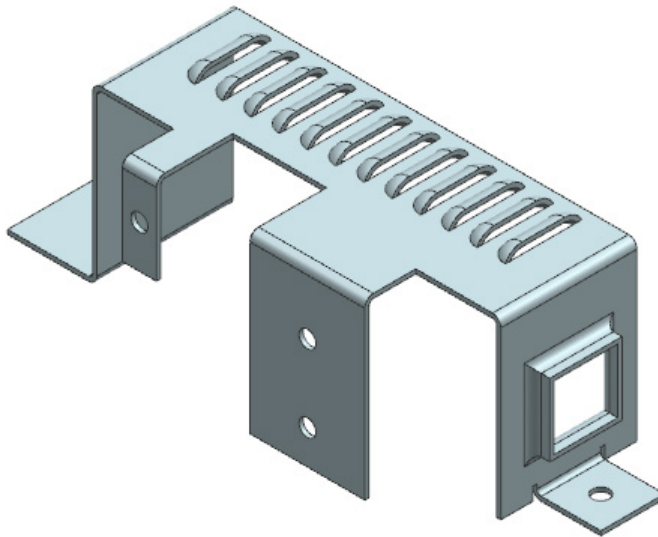
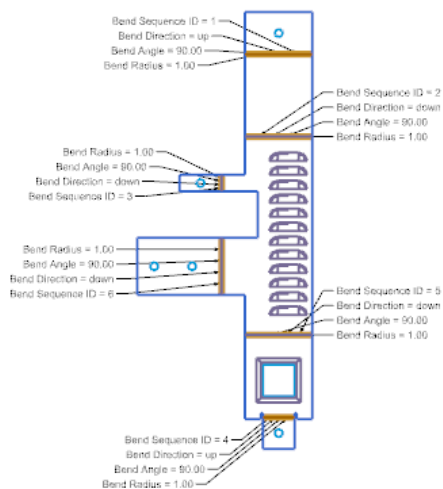
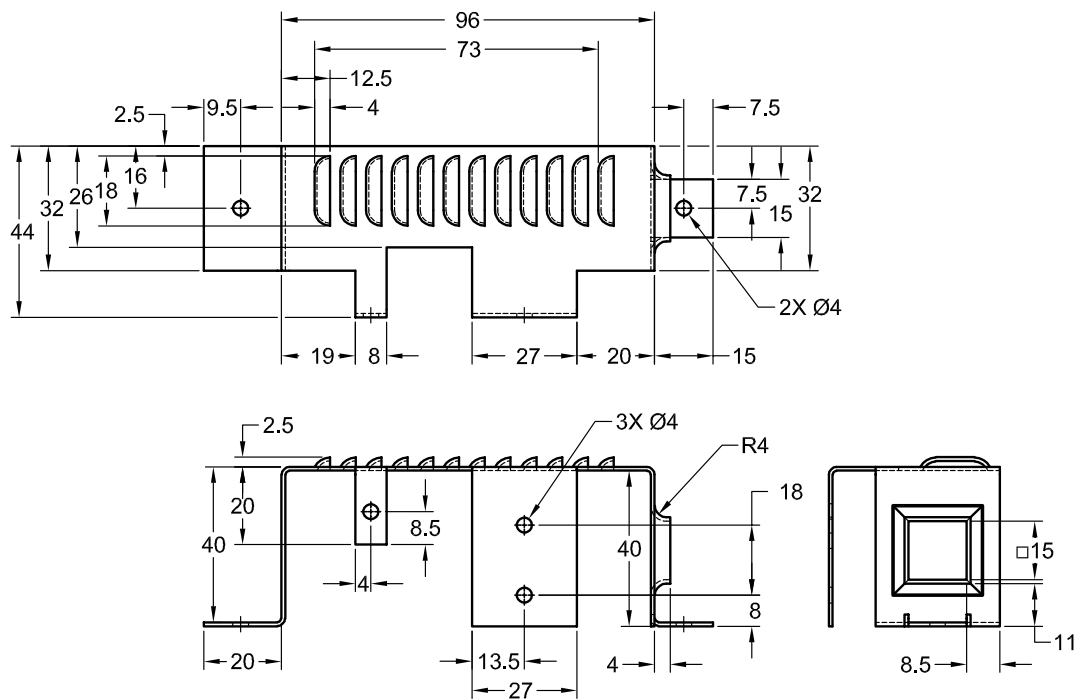
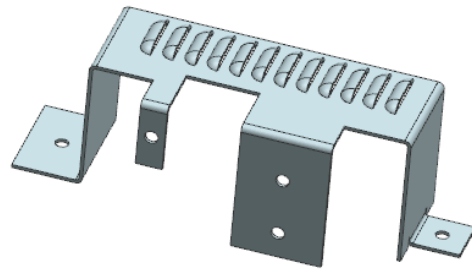

Figure 14-102 Sheet metal part for Tutorial 1
Figure 14-103 Flat pattern of the sheet metal part for Tutorial 1
Figure 14-104 Dimensions of the sheet metal part
Figure 14-122 Sheet metal part after creating the remaining holes
In this tutorial, you will create the sheet metal part of the Holder Clip shown in Figure 14-102. The flat pattern of the component is shown in Figure 14-103 and its dimensions are given in Figure 14-104. The material thickness, bend radius, relief depth, and relief width is 1 mm each. The specifications of the louver are given next.
3. Select the front face of the first flange; the point is placed on the selected face. Place another point and specify the position of both the points by adding dimensions. For positional dimensions, refer to Figure 14-104.
7. Similarly, create the remaining holes on other faces of the sheet metal, refer to Figure 14-122. For dimensions of the holes, refer to Figure 14-104. The part after creating the holes is shown in Figure 14-122.